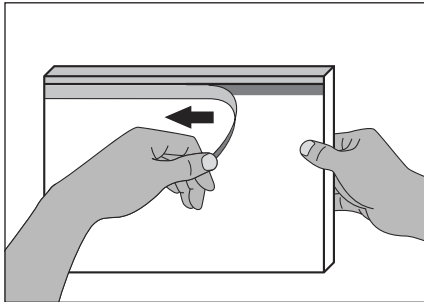

FIGURE 20
- 8a. Pick up your document from the cooling rack and peel off the section of release paper from the front of the spine (figure 20). This leaves a narrow adhesive band exposed. (If the release paper doesn't come off easily, the glue may still be too warm. Place it back in the cooling rack for a few minutes, then try again.)